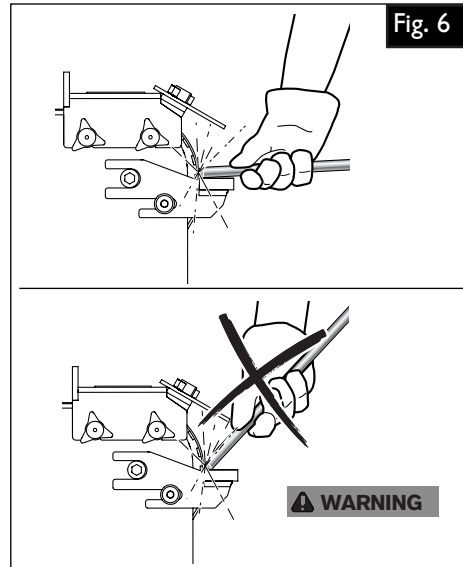

Fig. 6
9.5 Contact grinding (Figure 6).
9.5 Dressage (Figure 6). 13